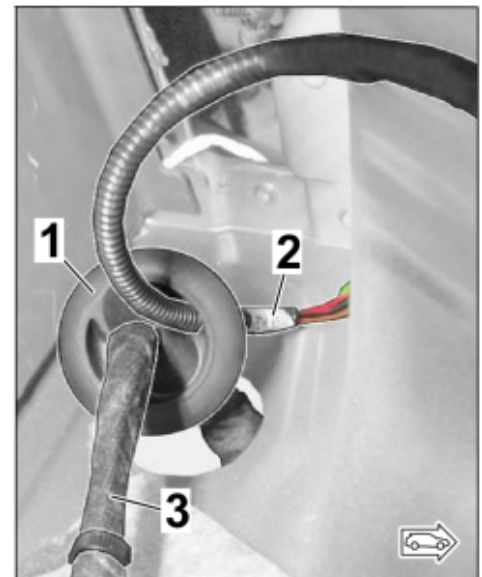

Figure 21
- Guide the new branch for the exhaust flap (left/right) through the neck of the grommet (see also 3.3.6) **OR** through another hole in the grommet collar (⇒ *Figure 21*) **CAREFULLY** to the underside of the grommet.